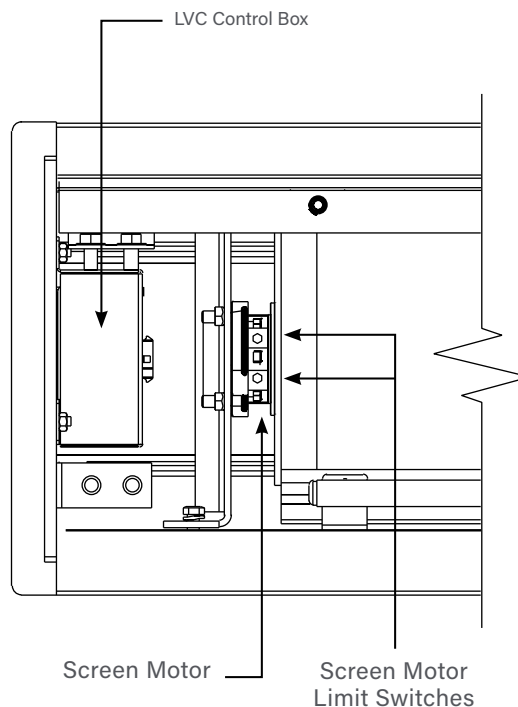

Figure 5
2. When the screen stops, turn the white "down" limit knob one-quarter turn counterclockwise (Figure 5). Test by raising picture surface approximately two feet, then lower again. Repeat until desired picture surface position is attained.
3. Turn the white "down" limit switch one-quarter turn clockwise (Figure 5). Test by raising picture surface approximately two feet, then lower again. Repeat until desired picture surface position is attained.